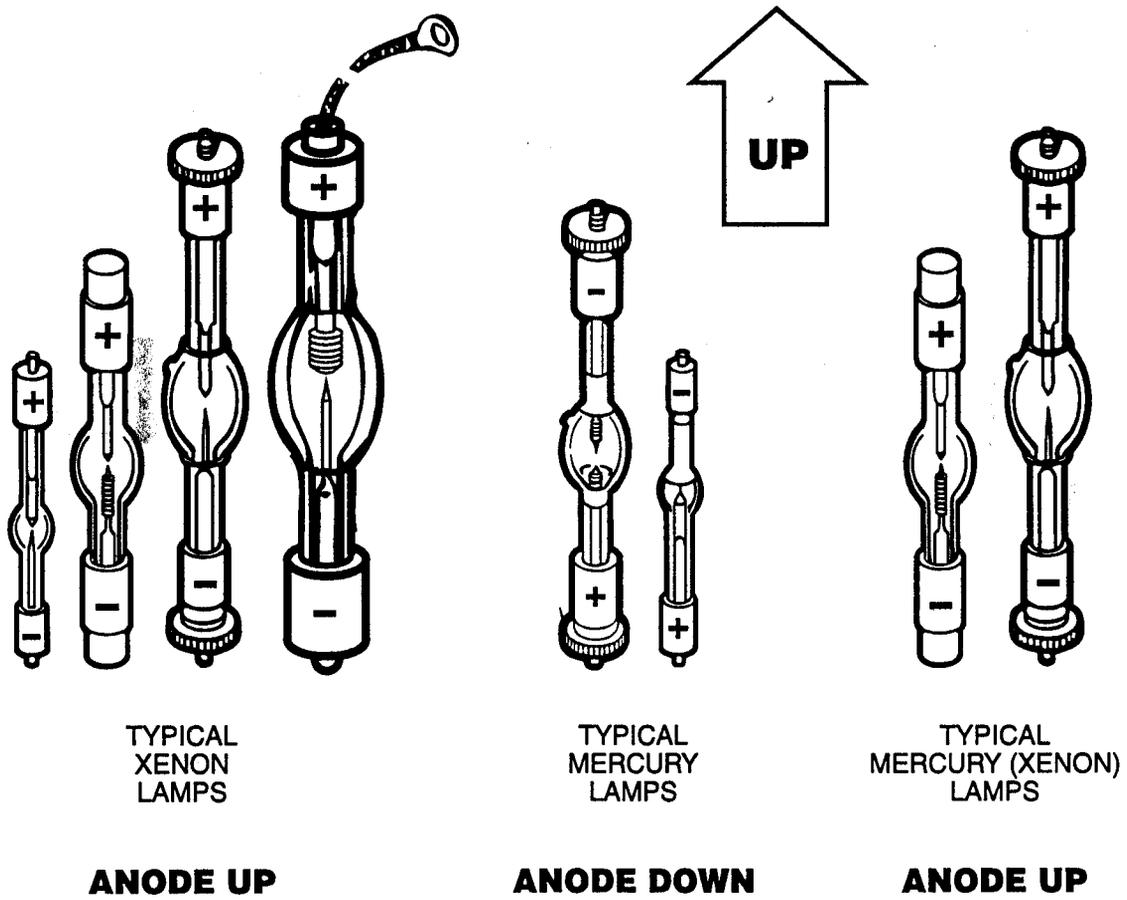

Fig. 4 Correct Operating Position Of Arc Lamps
4. Determine which orientation is correct for the lamp. For xenon and mercury(xenon) lamps, the anode (+ve) is at the top. For mercury lamps the anode (+ve) must be at the bottom. You can identify the anode by a + stamped on the lamp base. Any lamp identification writing or numbers will be the correct way up when the lamp is held in the correct operating orientation. See Fig. 4 on page 13 for a diagram.